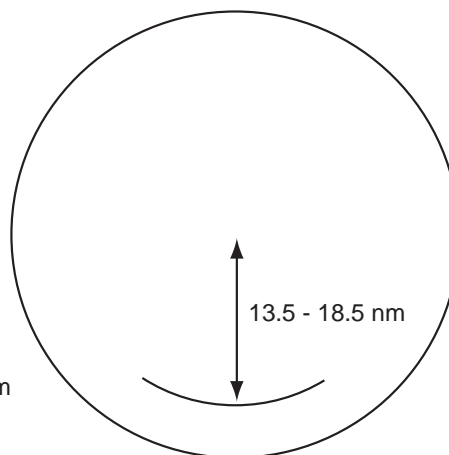

Fig.2
2. Adjust PM Gain Adj so that outer arc just disappears (Fig.2). The setting range is 0 to 255.